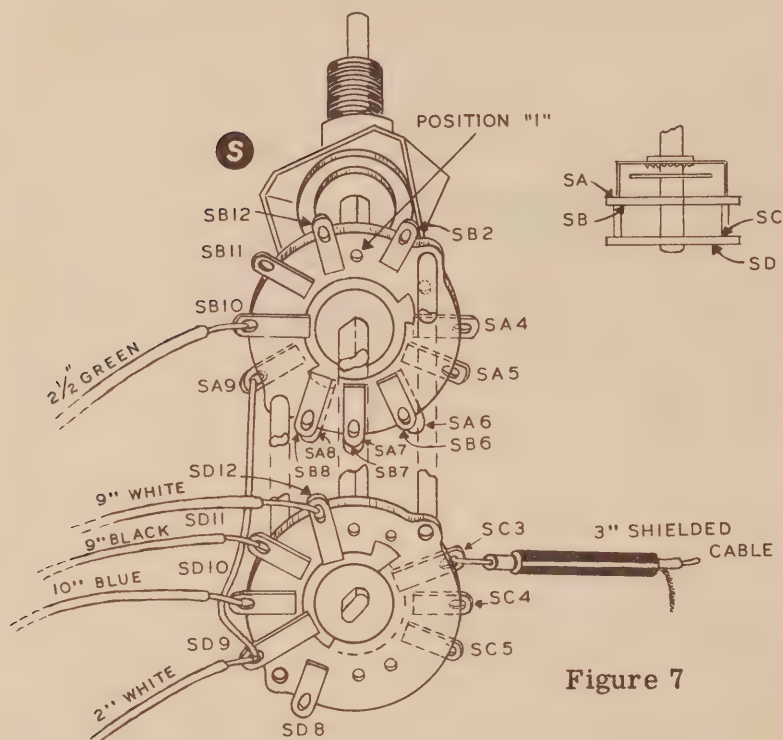

Figure 7
- (✓) 17. Refer to Figure 7 and identify the SELECTOR wafer switch, S. This is the 2-deck wafer switch. Inspect the switch carefully and note that there is one vacant position on the back. This position may be used for reference and will be referred to as #1. Other switch contacts will be numbered in clockwise sequence. Notice also that contacts appear on both sides of each of the two wafers. Letter designators will be used to identify the wafer and side:
Thus, SB12 will refer to contact 12 on the back side of the panel section. Figure 7 is a detailed drawing of the switch and its associated wiring.